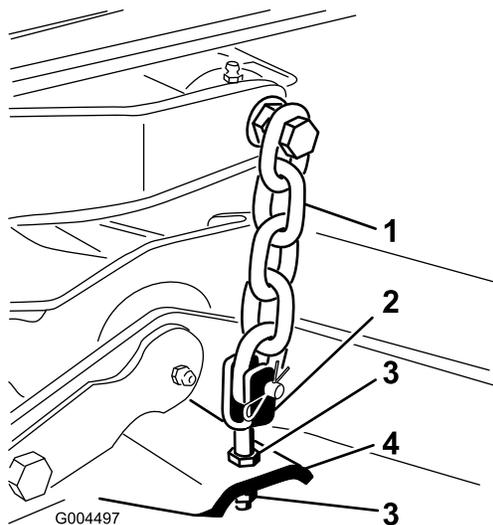

Figure 65
7. Adjust the jam nuts securing the rear deck yokes/chains to raise the rear of the deck so that the blade pitch is set to 8 mm (5/16 inch) (Figure 65).